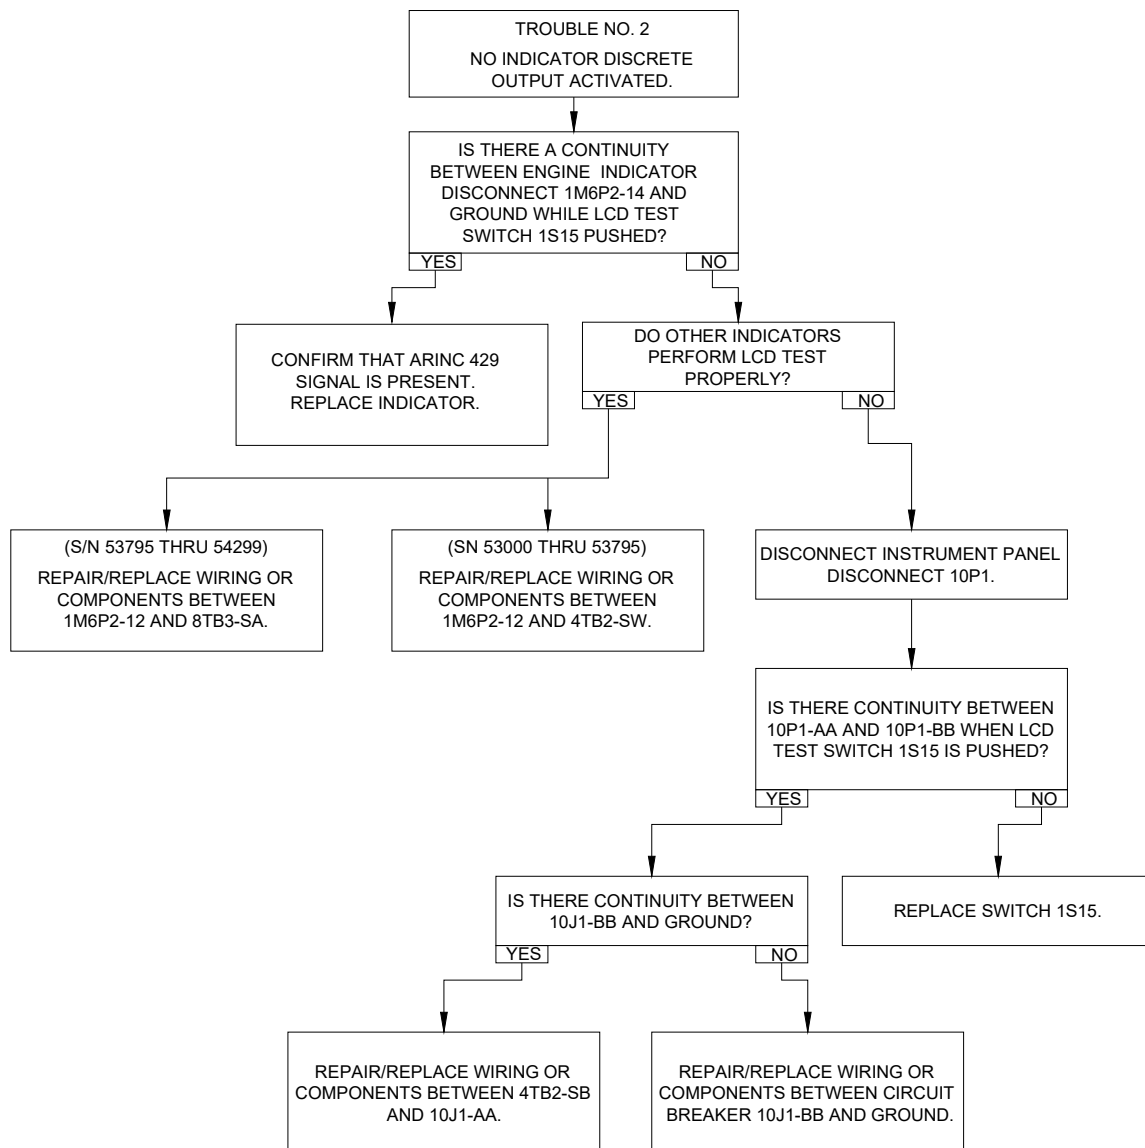

Figure 95-21: Dual Tachometer Indication System - Trouble No. 2
- If no indicator discrete output activated, refer to Trouble No. 2 (Figure 95-21).